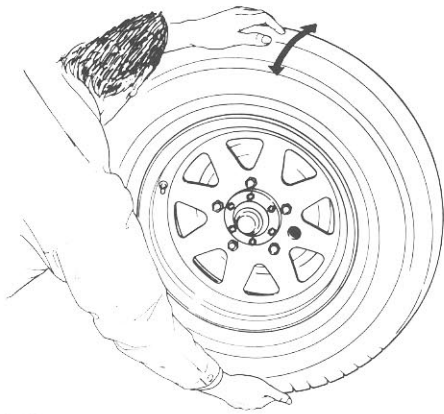

Fig. 17-42
- (2) Where the tapered roller bearings holding the two kingpins at each front wheel are in good and properly preloaded (tightened) condition, there will be no appreciable rattle of the wheel. To check the kingpins and their tapered roller bearings, jack up the front end and shake the wheel to feel any rattle, as shown in Fig. 17-42. If a rattle is felt, eliminate it by properly decreasing the shim thickness. The shim is located between the flanged part of the kingpin and the knuckle.